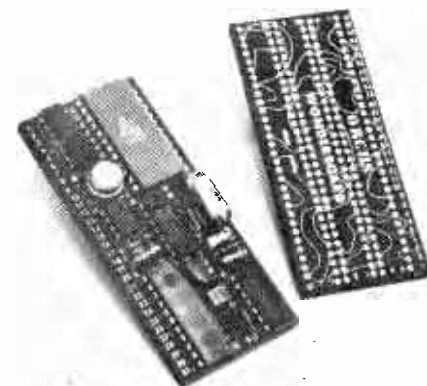

Fig. 8
**Wonderboard** is available in two sizes which measure 81 × 35mm and 81 × 140mm. The layout will accept most i.c.s and discrete components as shown in Fig. 8. The basic board contains six